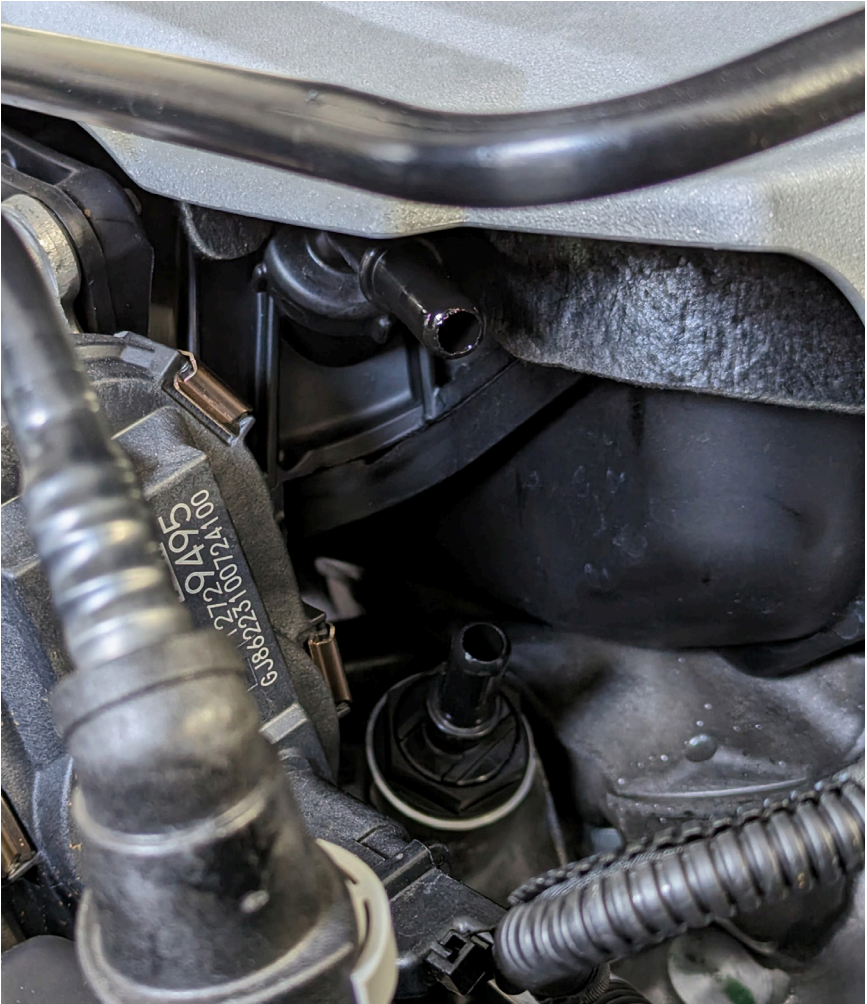

Figure 2 - Factory PCV Tube Removed
3. Remove the factory PCV tube by depressing the buttons on each fitting, shown removed in Figure 2.